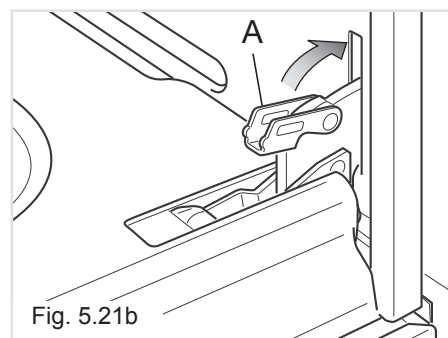

Fig. 5.21b
- Fully close the levers "A" on the left and right hinges, as shown in the figure 5.21b.